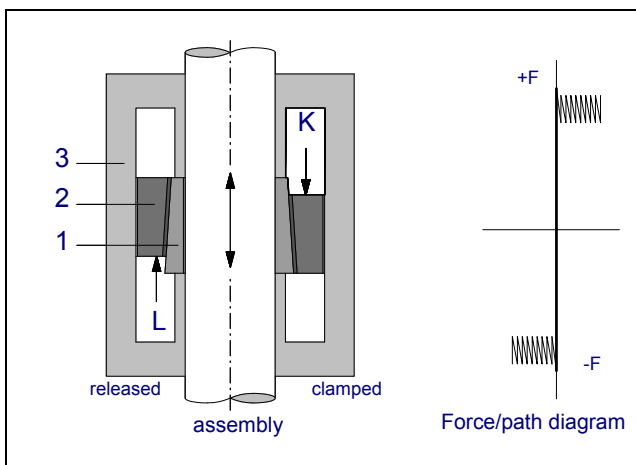

Fig. 1: Functional principle
The clamping system consists of a conical sleeve (1), Fig. 1 and a clamping ring (2), Fig. 1. The sleeve is axially fixed in the housing (3), Fig. 1 allowing only radial movement. The clamping ring (2), is guided by the housing (3) and is forced in an axial direction over the sleeve (1) to achieve the clamp-